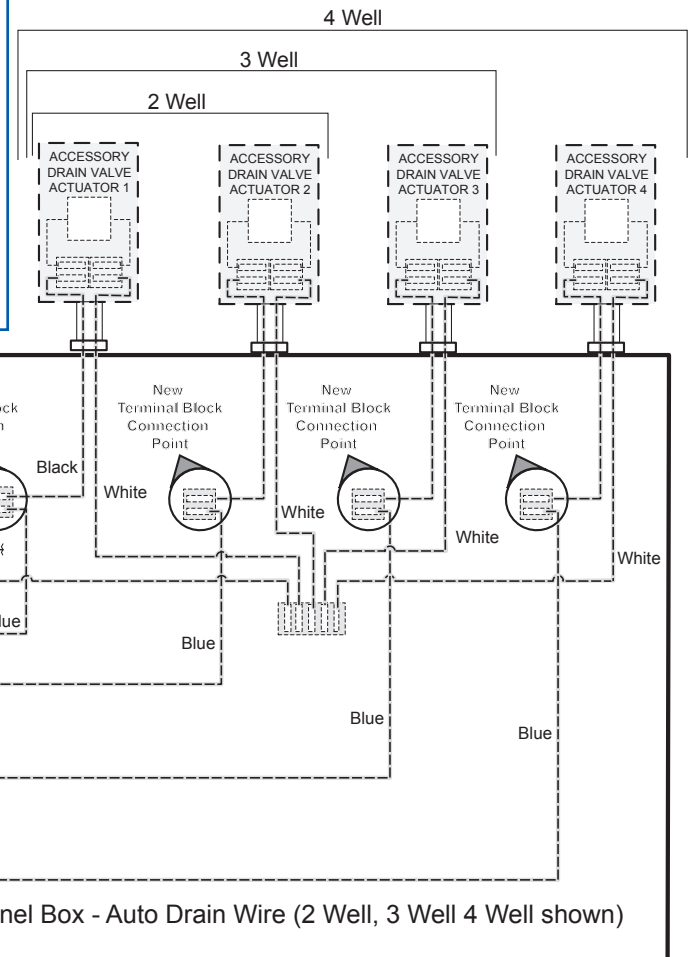

Figure 4. Electrical Connections.
10. Make the connections as shown in Figure 4 using the lever connectors and blue and white wire(s) provided. Also refer to unit wiring diagram.